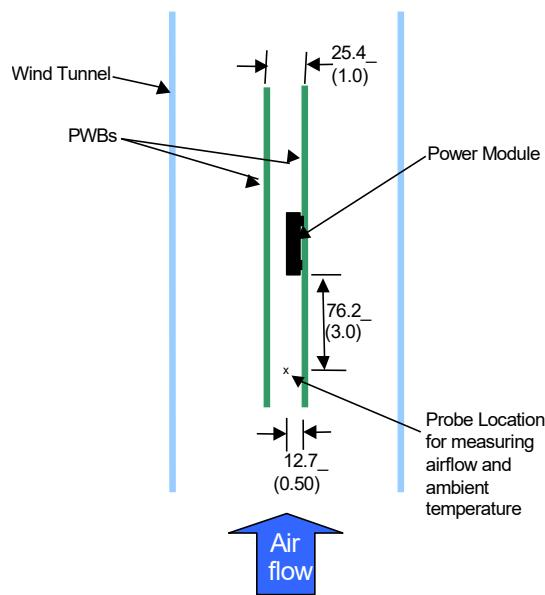

Figure 28. Thermal Test Setup.
Power modules operate in a variety of thermal environments; however, sufficient cooling should always be provided to help ensure reliable operation. Considerations include ambient temperature, airflow, module power dissipation, and the need for increased reliability. A reduction in the operating temperature of the module will result in an increase in reliability. The thermal data presented here is based on physical measurements taken in a wind tunnel. The test set-up is shown in Figure 28. The preferred airflow direction for cooling the module and the thermal reference points, Tref used in the specifications are shown in Figure 29. For reliable operation the temperatures at these points should not exceed 120°C (IC300) and 115°C (C202). The output power of the module should not exceed the rated power of the module ($V_{o,\text{set}} \times I_{o,\text{max}}$). Please refer to the Application Note "Thermal Characterization Process for Open-Frame Board-Mounted Power Modules" for a detailed discussion of thermal aspects including maximum device temperatures. Increased airflow over the module enhances the heat transfer via convection. The thermal derating of figures 2, 8, 14 and 20 show the maximum output current that can be delivered by each module in the indicated orientation without exceeding the maximum Tref temperature versus local ambient temperature (TA) for several air flow conditions. The thermal derating curves were generated using a 12 layer evaluation board with 3oz copper in inner layers and 2 oz in outer layers.